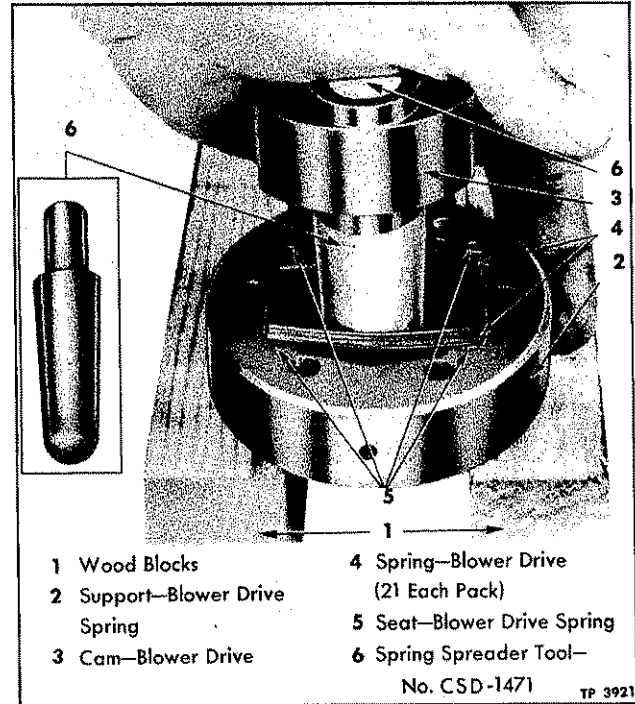

Figure 56—Inserting Blower Drive Cam in Shim Pack with Spreader Tool
5. Place drive spring support (16) on two blocks of wood, as shown in figure 56.
6. Grease springs (17) to hold the leaves together. Slide two spring packs consisting of 21 springs each into spring support together with a drive spring seat (18) at both ends of each spring pack. Locate spring seats (18) so rounded surface of seats will set in corresponding curve in spring support.
7. Install blower drive cam (17) over end of spreader tool; then insert tool between spring packs until lower edge of cam rests on blocks beneath spring support.